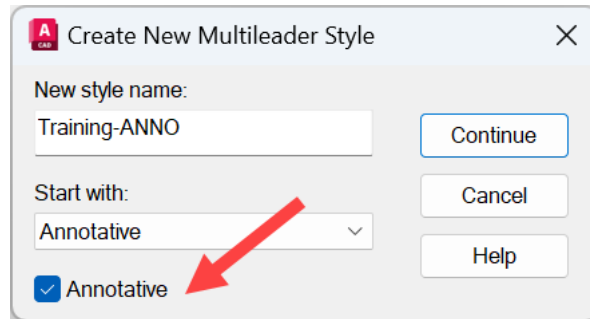

Figure 7.25: The Create New Multileader Style dialog box
4. In the **Create New Multileader Style** dialog box that appears, set a new multileader style with the name **Training-ANNO** (like the dimension style), set the **Start with** dropdown to **Annotative**, and make sure you check the **Annotative** checkbox, as shown in *Figure 7.25*.